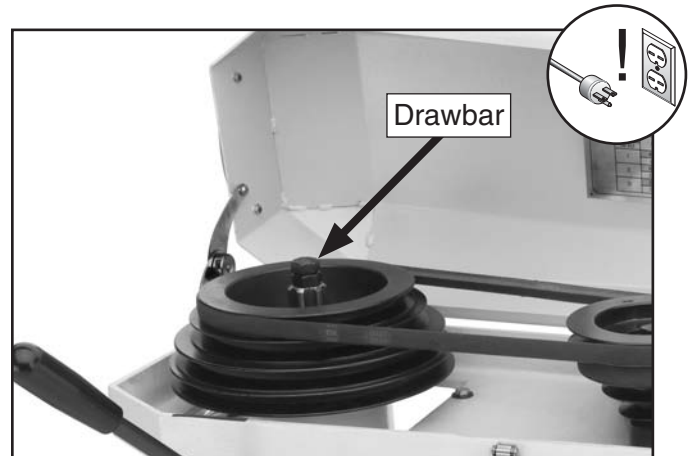

Figure 37. Drawbar inserted through the top of the spindle.
3. Open the V-belt cover and rotate the adjustment hex nut to the top of the drawbar to extend the drawbar fully within the spindle (see **Figure 37**).